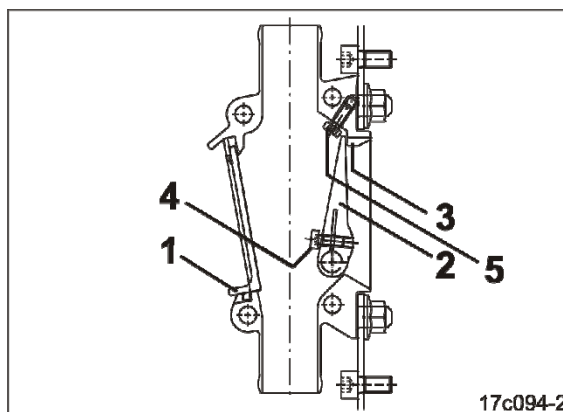

Fig. 194
2. Push up the assembly window (Fig. 194/1) and take out of the flap box from the front.
3. Press the flap (Fig. 194/2) against the stop (Fig. 194/3) and release the hexagon socket head screw (Fig. 194/4) enough to allow the flap to move freely on the shaft.
4. Unscrew the locking screw (Fig. 194/5) by approx. 5 mm to ensure that the deactivated flap cannot move and the opening to the hopper remains closed.